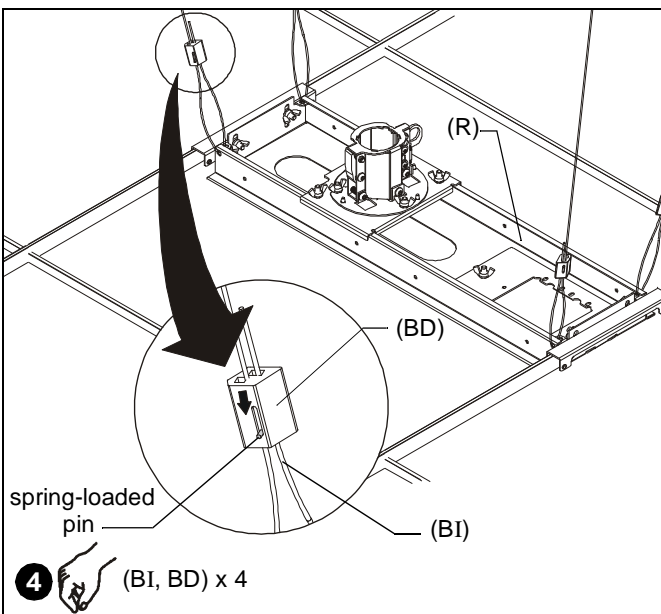

Figure 16
**CAUTION:** Failure to properly tension cables (BI) may result in damage to ceiling tile framework!
4. Thread each cable (BI) completely through cable lock (BD), corresponding hole in corner of ceiling plate assembly (R), and completely through opposite side of cable lock (BD). (See Figure 16)
5. Adjust cable tension until ceiling plate assembly (R) is supported *entirely* and *evenly* by all four support cables, but not so tight as to distort ceiling tile framework.
**NOTE:** Cable lock (BD) will allow cable to enter from only one direction per side, indicated by arrows on lock. Depress spring loaded pins on cable lock (BD) to release cable tension.